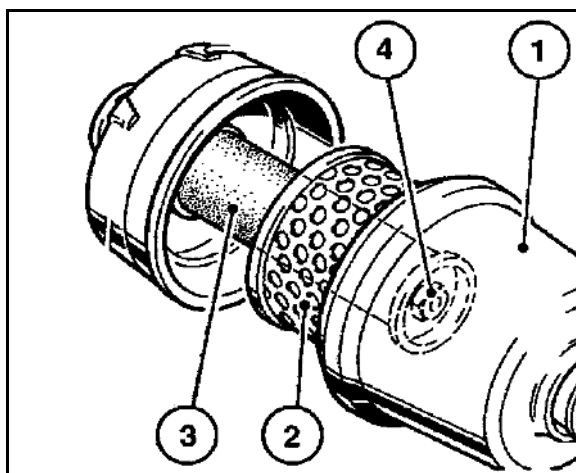

Fig. 164
2. Undo the lubricating oil filter cartridge (Fig. 164/5) using standard commercial tools and unscrew it.